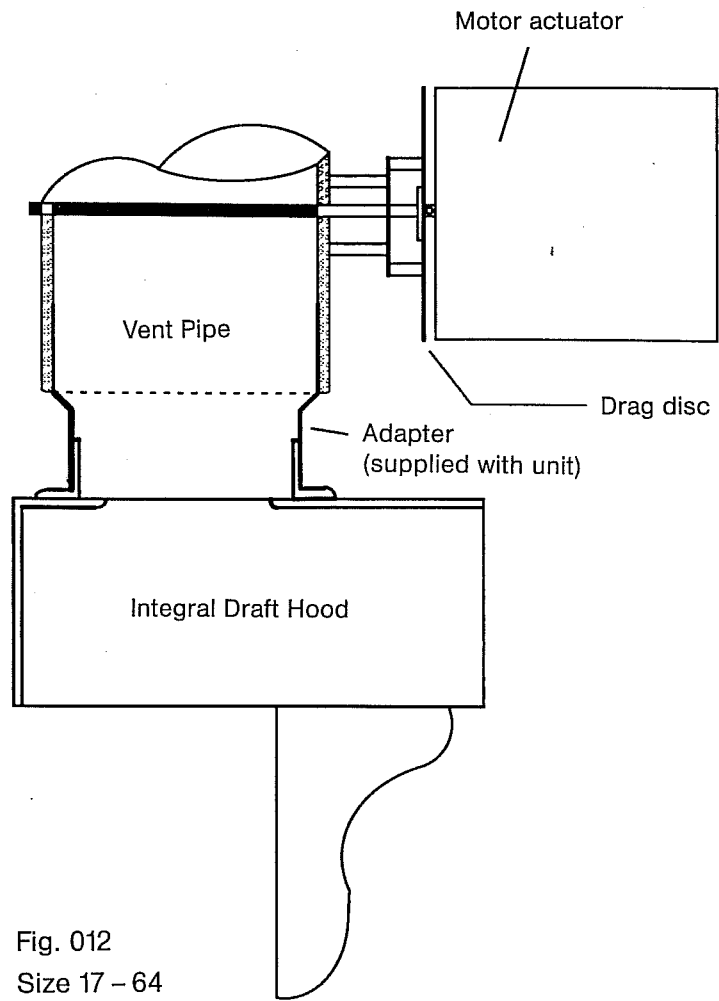

Fig. 012
- Installation of the flue damper behind the integral draft hood (see fig. 012, page 16).